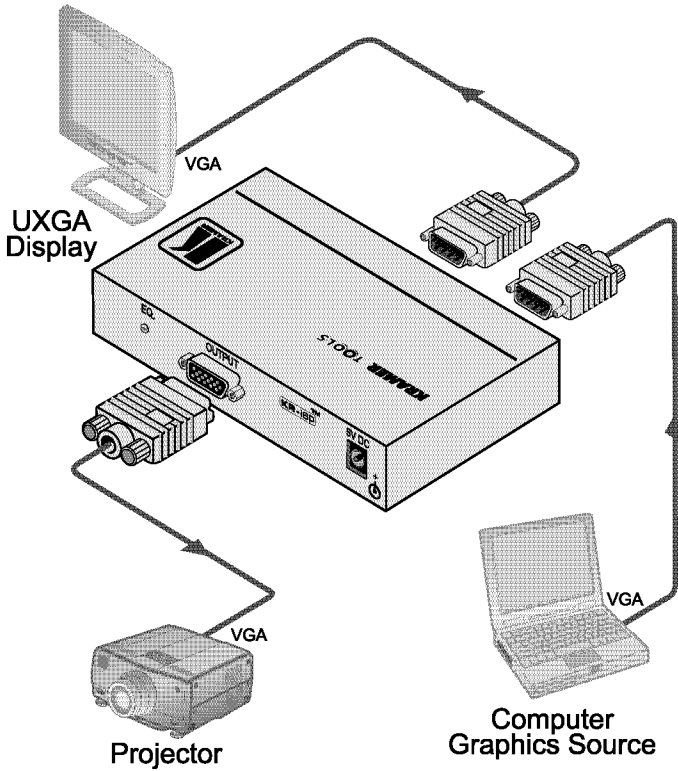

Figure 2: Connecting the VP-111K UXGA Line Driver
To connect the **VP-111K**, as the example in *Figure 2* illustrates, do the following¹:
1. Connect a computer graphics source (for example, a laptop) to the INPUT 15-pin HD (F) connector.
2. Connect the OUTPUT 15-pin HD (F) connector to an acceptor (for example, a projector).
3. Connect the LOOP 15-pin HD (F) connector to an acceptor (for example, a local display).
4. Connect the 5V DC power adapter to the 5V DC socket and connect the transformer to the mains electricity (not illustrated in *Figure 2*).